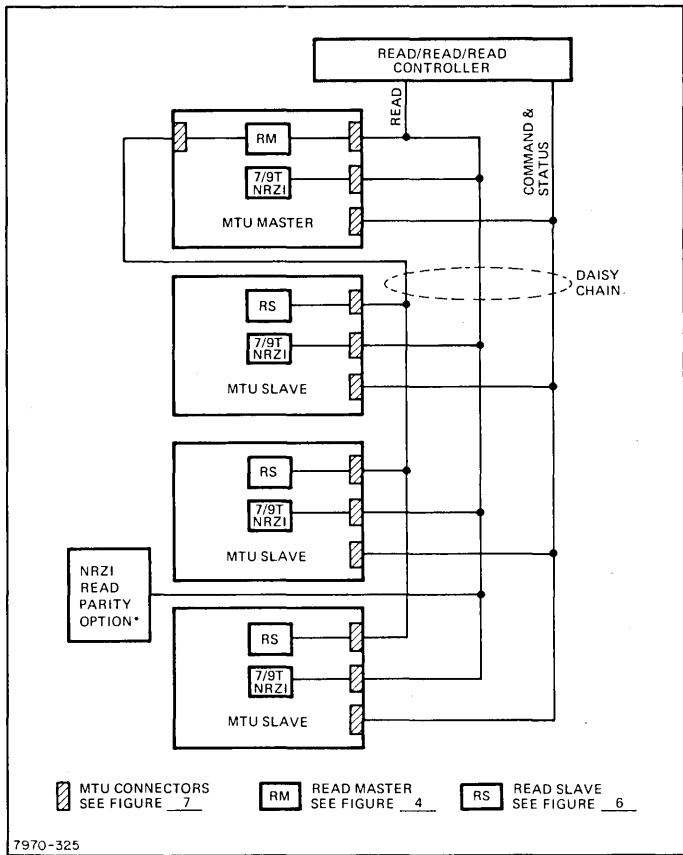

Figure 3b. Read/Read/Read 7/9-Track PE/NRZI Configuration
- (2) Read/Read/Read 7/9-Track PE/NRZI (Figure 3b). Both master and slave units contain the same command-and-status and 7/9T NRZI read electronics. Complete PE read data is in the master unit only. The slave unit PE read capability is accomplished through the master read electronics for multi-unit parallel-connection operations. The PE and NRZI controller interfaces may be used as separate connectors (figure 7), or in parallel from the PE connector when the parity option is used (figure 3b). This is accomplished by the daisy-chain method shown in figure 3b. Complete 7- and 9-track PE/NRZI read/read/read capabilities are contained in a single unit. A constant transfer rate option is available in this configuration if a constant data transfer rate between PE and NRZI is required. Density selection is front-panel selectable.